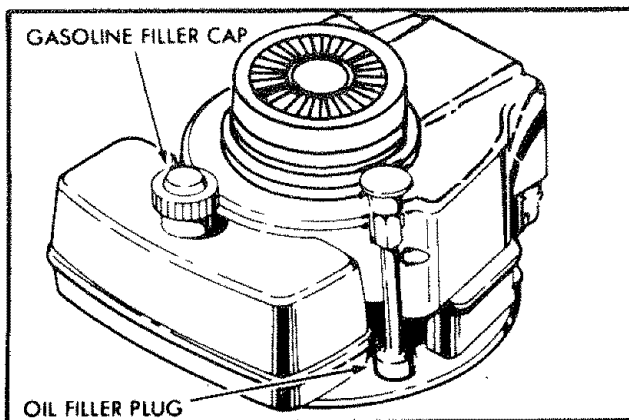

FIG. 11
1. Remove engine oil cap with dipstick and fill to the "FULL" line on the dipstick, using about 1 pint of Sears 30W oil or equivalent. SAE 30W oil can also be used (See Fig. 11). DO NOT use SAE 10W40 oil.
4. Fill the gasoline tank with about one (1) quart of fresh, clean unleaded automotive gasoline. Regular leaded gasoline can also be used (See Fig. 11). DO NOT use old or stale gasoline which has been kept from one season to another; starting problems can result.